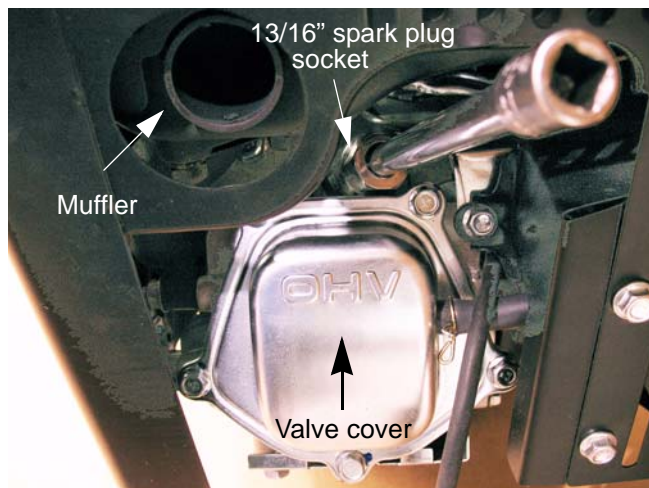

Figure 7.15
2. Remove the spark plug using a 13/16" or 21mm wrench. A flexible coupling or "wobbly" extension may help. See Figure 7.15.